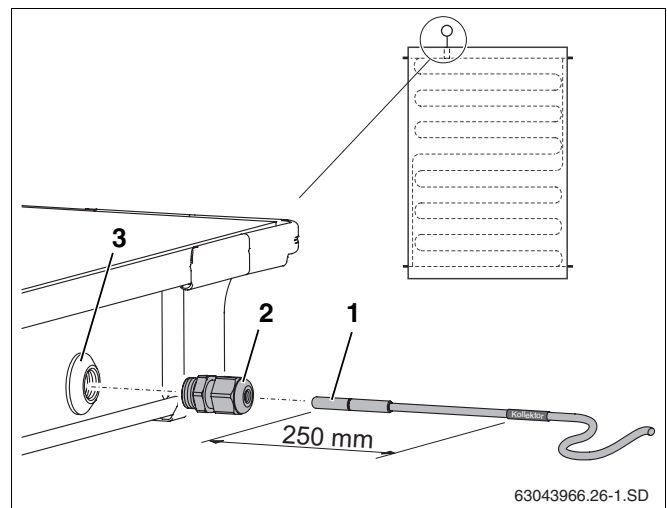

Fig. 31 Inserting the collector sensor into the collector
For perfect functioning of the solar heating system, the collector sensor (Fig. 31, **Item 1**) needs to be inserted into the sensor guide tube as far as it will go (approx. 250 mm).
- ▶ Using the collector sensor or screwdriver, push through the sealing membrane on the sensor bush (Fig. 31, **Item 3**).
- ▶ Screw compression fitting (Fig. 31, **Item 2**) into sensor bush.
- ▶ Tighten compression fitting (Fig. 31, **Item 2**), counterhold if necessary.
If you accidentally push through the sensor bush (Fig. 31, **Item 3**) on the wrong collector, it can be resealed using the plug from the connection kit. You must first remove the nut in the sensor bush using the cable gland (Fig. 31, **Item 2**).